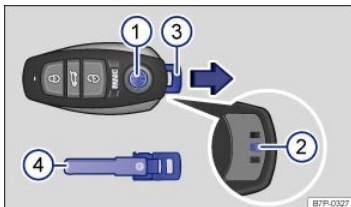

Fig. 206 Releasing and removing the emergency key from the remote control vehicle key with alarm button.
- Press and hold the button → Fig. 206  with one hand.